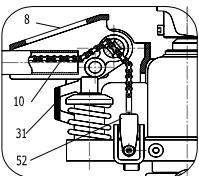

Fig.2
Cross the chain (10) of the handle tube through the hole of the pin shaft. Refer to figure 2.
Put the Screw and nut at the end of chain 10 into the slot of the lever plate. Please refer to figures 2 and 4.